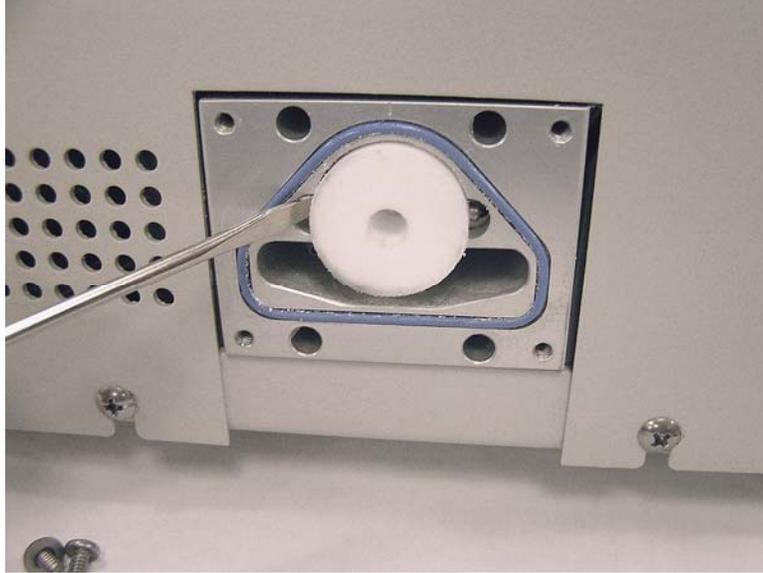
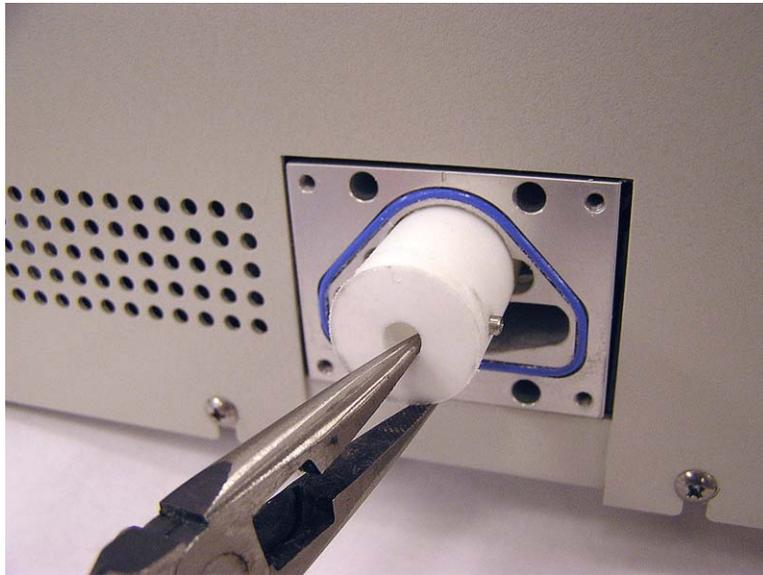

Figure 8-8
Figure 8-9
- 6.** Insert a small flat-blade screwdriver in the notch at the side of the wick and pry the wick out as shown in Figure 8-8. You may need to use pliers if the wick is soaked with butanol (see Figure 8-9). Make sure to use as minimal force as possible. Place the wick in the plastic bag included with the accessories and seal the bag. This wick can be dried by putting it in a vacuum for three hours. However, it is not necessary to dry the wick before putting it back into the saturator block after the shipment.